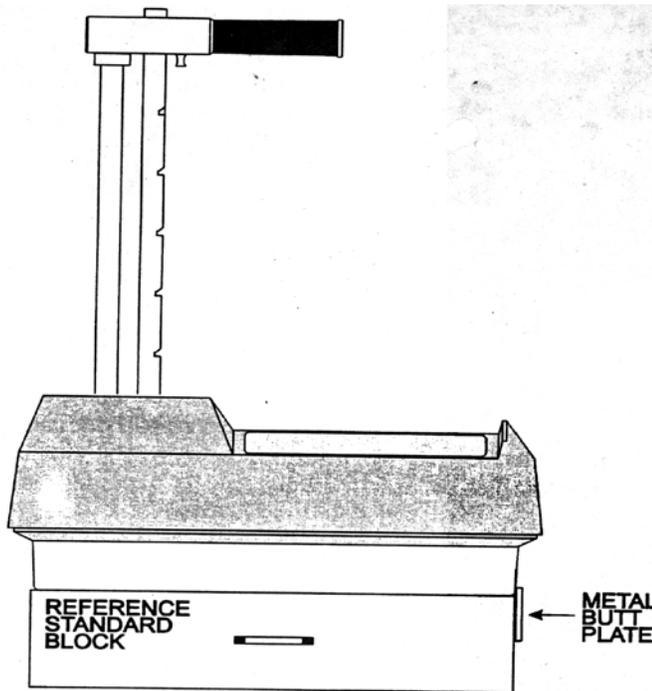

Figure 9 3400 Series Nuclear Gauge Standard Count (Troxler Nuclear Gauge Operation Manual)
6. If using a 3450 Nuclear Gauge place the gauge on the Block and ensure the keypad side of the gauge is against the Metal Butt Plate located on the end of the Block (Refer to Figure 9).